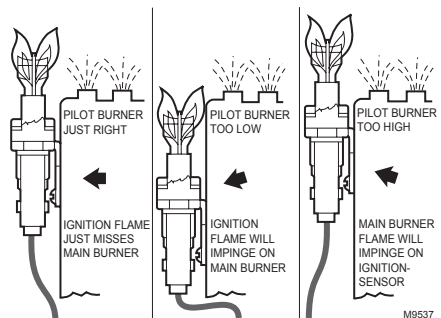

Fig. 2. Location of pilot burner.
3. Mount pilot burner so the pilot flame remains properly positioned with respect to the main burner flame. See Fig. 2.